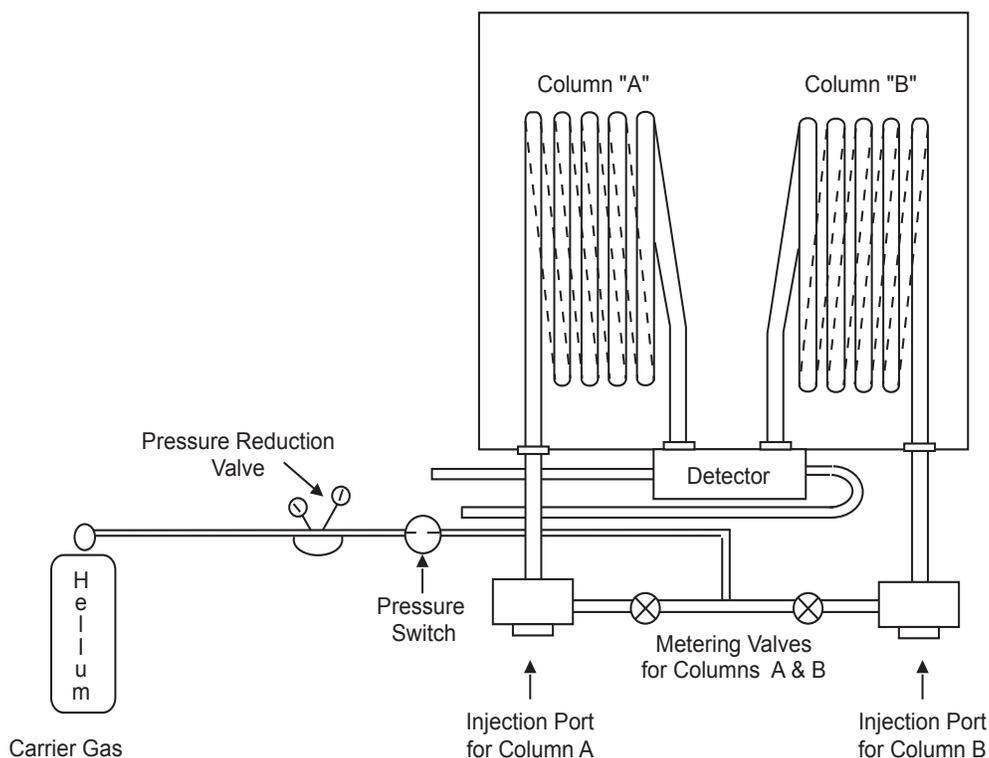

Figure 3-3
10. The easiest way to locate leaks in the system is through the use of a GOW-MAC Gas Leak Detector, Series 21-070. If one is not available, the use of a leak testing solution (soap solution) and checking for bubbles may be used. Refer to Figure 3-3 to locate possible leak areas.